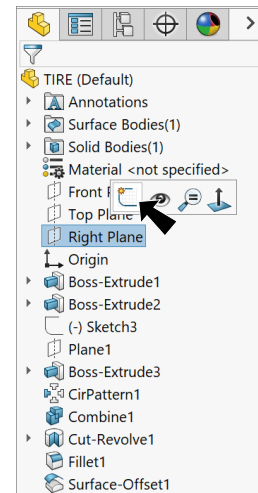
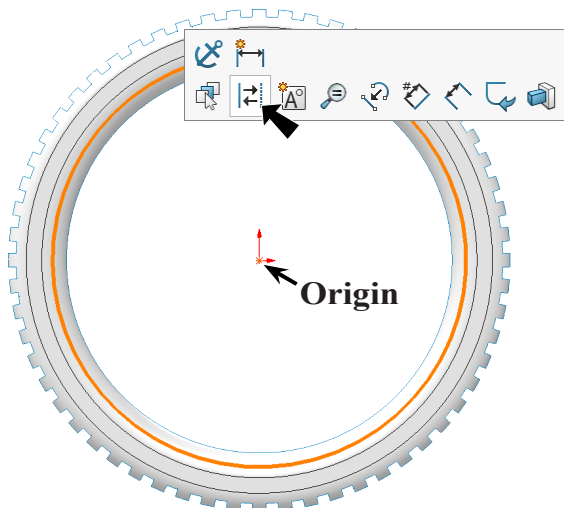
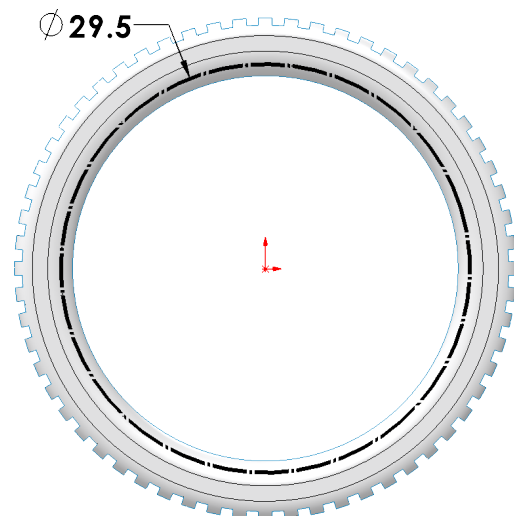

Fig. 53
Fig. 54
Fig. 55
Step 1. Click **Right Plane**  in the Feature Manager and click **Sketch**  on the context toolbar, **Fig. 53**.
Step 3. Click **Circle**  (S) on the Sketch toolbar.
Step 4. Sketch a circle starting at the Origin , **right click circle** and click **Construction Geometry**  on the context toolbar, **Fig. 54**.
Step 5. Click **Smart Dimension**  (S) on the Sketch toolbar.
Step 6. Dimension diameter 29.5, **Fig. 55**.